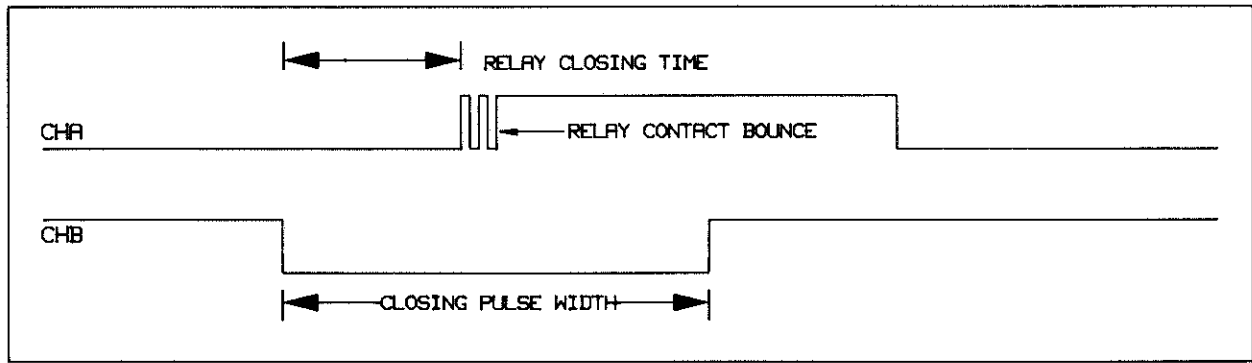

Figure 8-13 HP 44705A/H Closing Time
5. The CLOSING pulse is a negative pulse. The width of the negative pulse must be between 0.9 and 1.1 milliseconds for the HP 44705A, or 1.8 and 2.2 milliseconds for the HP 44705H. If the pulse is not within these limits, the relay multiplexer is failing. The CLOSING pulse is shown in Figure 8-13. the waveform will exhibit a small amount of jitter caused by the operating system.
8. Rotate the DELAY SWEEP dial to the minimum position. Select the DELAYED sweep mode on the scope. Slowly rotate the DELAY SWEEP dial clockwise while observing the displayed waveforms. The Channel B waveform is the CLOSING pulse. The Channel A waveform is the +5V supply as switched by the relays. As the DELAY SWEEP dial is rotated, one relay closure and the associated CLOSING pulse will come in to view at a time. The relay closing time is the time between the falling edge of the CLOSING pulse (Channel B) and the rising edge of the Channel A waveform. This time must be less than 1.1 milliseconds for the HP 44705A or 2.2 milliseconds for the HP 44705H. This time is illustrated in Figure 8-13. Note that there will be some relay bounce indicated on the Channel A waveform.